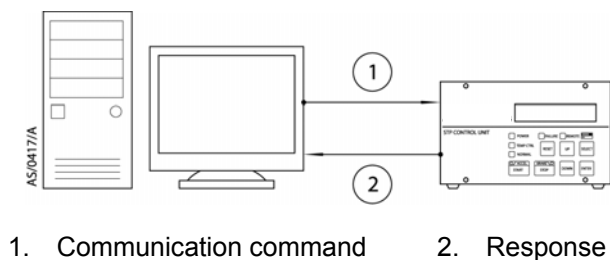

Figure 37 - PC to SIM communication
The STP serial communication protocol enables the SIM to receive the communication command, (Figure 37, item 1) transmitted from the PC and send a response, (Figure 37, item 2) following the communication command. Each communication command from the PC transmits a text message (ASCII text) assigned to each function. Communication commands include control commands (STP pump operation commands, and so forth) and query commands (read-out of STP pump operation mode, and so forth).